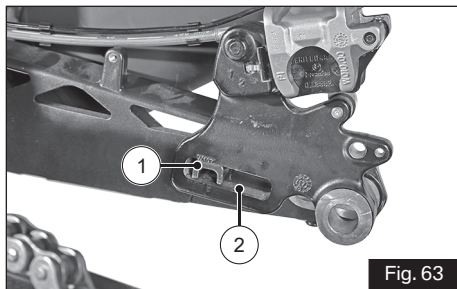

Fig. 63
- ♦ Place the brake-caliper (1) on the guide (2) of the swing arm as shown (ref. Fig. 63)